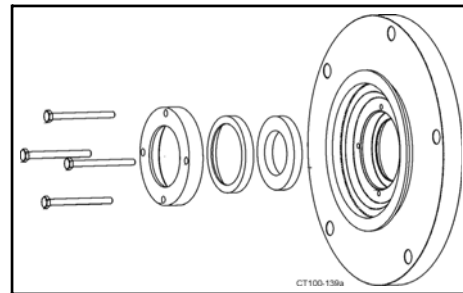

Figure 17 - Remove Stationary Seal
7. Remove four 1/4" hex bolts and stationary seal retainer ring (Figure 17, items A and B).
8. Pull stationary seal and L-gasket out of backplate (Figure 17, items C and D).